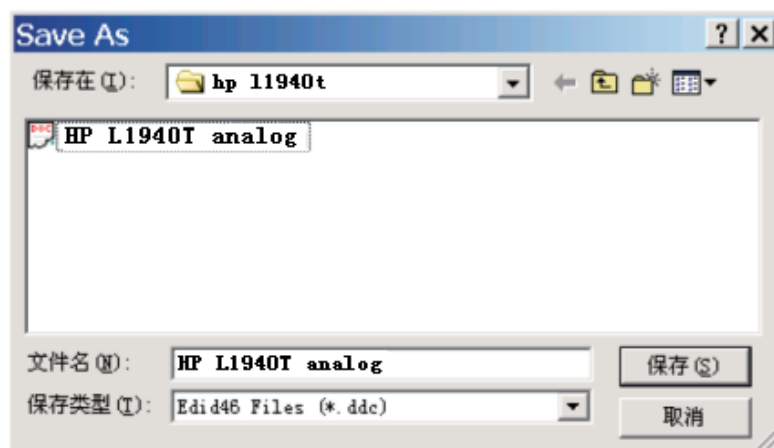

Fig. 25
1. Click (Save) icon (or click "file"-> "save as") from the tool bar and give a file name as shown in Fig. 25. The file type is EDID46 file (*.ddc) which can be open in WordPad. By using WordPad, the texts of DDC data & table (128 bytes, hex code) can be modified. If DDC TEXTS & HEX Table are completely correct, it can be saved as .ddc file to re-load it into DDC IC for DDC Data application.